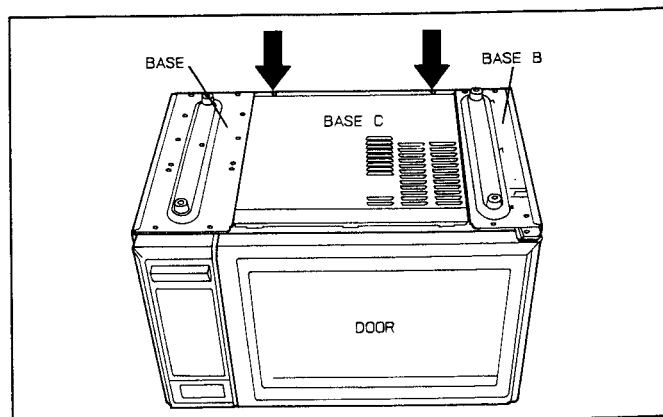
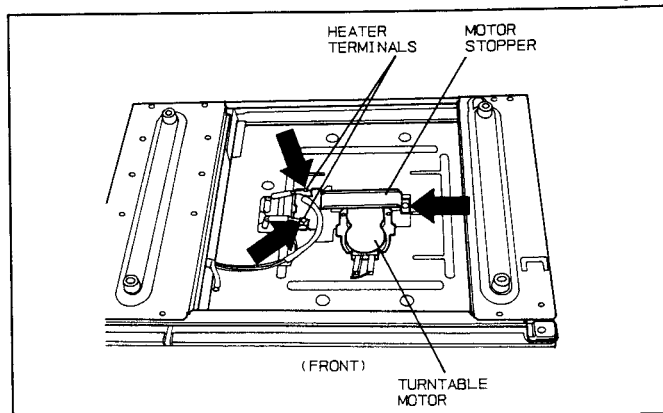
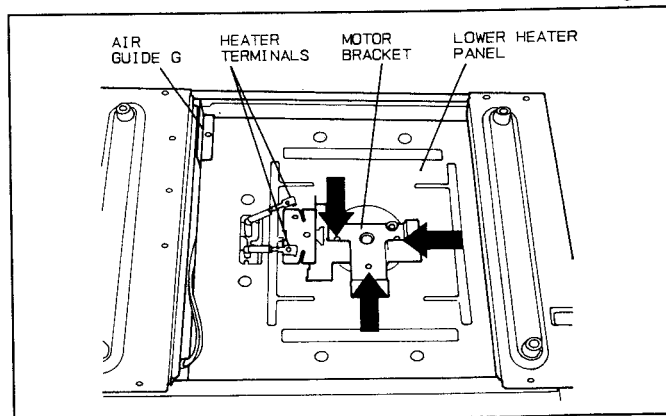

Fig. 27
Fig. 28
Fig. 29
- (A) Remove the glass ceramic tray and the turntable from oven cavity.
- (B) Carefully turn the oven up side down.
- (C) Remove the base C by removing 2 screws. (Fig. 27)
- (D) Disconnect the turntable motor connector.
- (E) Remove 2 screws holding 2 heater terminals and 2 power supply lead wires. (Fig. 28)
- (F) Remove the motor stopper by removing a screw. (Fig. 28)
- (G) Remove the turntable motor by removing 2 screws.
- (H) Remove the motor bracket by removing 3 screws. (Fig. 29)